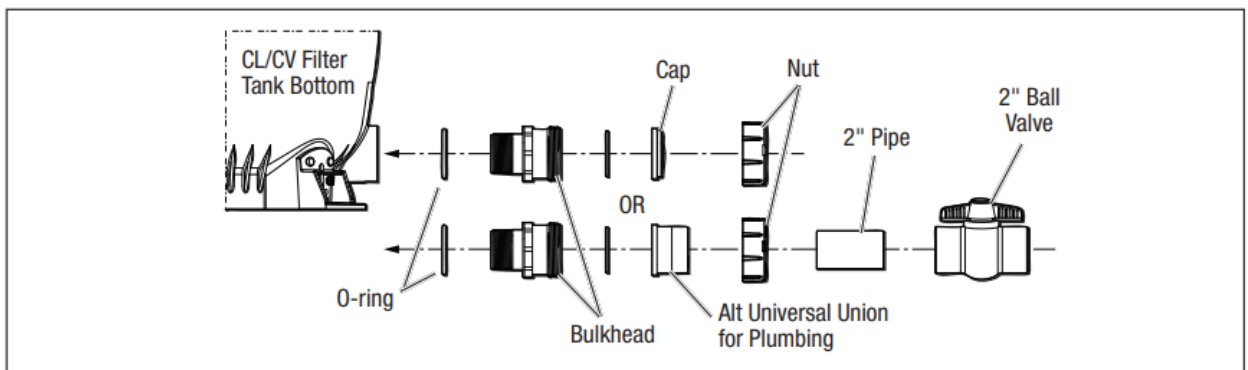

Figure 6. Jandy Pro CL and CV Series Cartridge Filter Drain Configurations
9. Connect the pipes using the unions supplied with the filter. Do not use Teflon tape or pipe dope on any unions. Assemble the unions dry and hand tighten. See Figure 6.
10. If desired, the CV filter drain can be plumbed using a Jandy Pro universal union. The plumbing must contain a ball valve as shown in Figure 6.